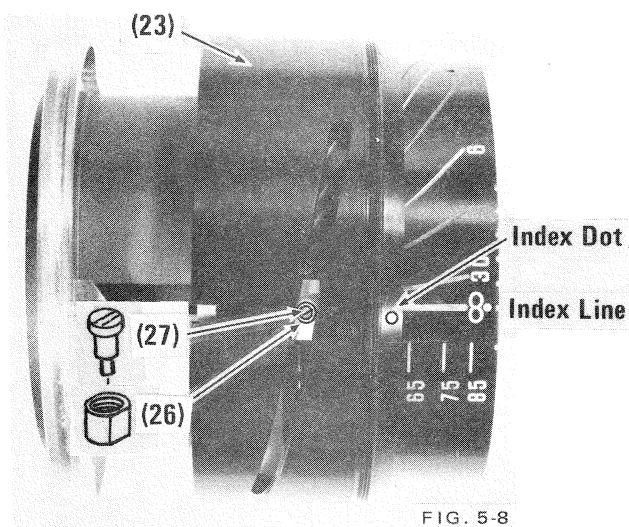

FIG. 5-8
- a) Slide cam ring (23) onto the lens from the rear. Align the index dot approximately with the infinity index line of the index ring. Fig. 5-8.
- b) Install a roller (26) through the cam slot and over the mounting hole in the bridge ring. Make sure that the counterbored side is outward.
- c) Install roller shaft (27) through the roller, sealing the threads with thread sealant. Do the same on the other side of the lens. Fig. 5-8.